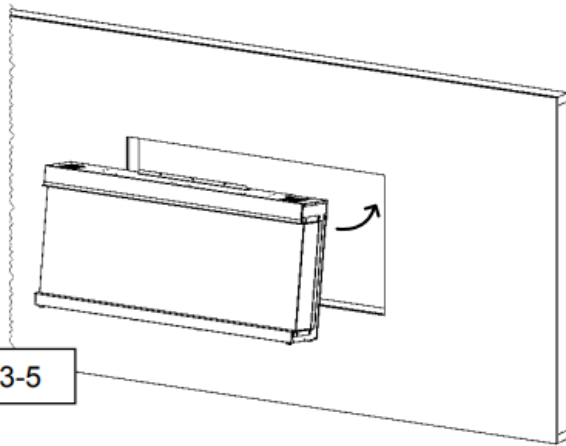

Fig. 3-5
- Install the fireplace in the framed opening. Adjust the adjustable feet as needed to ensure the fireplace is level (Fig. 3-5).